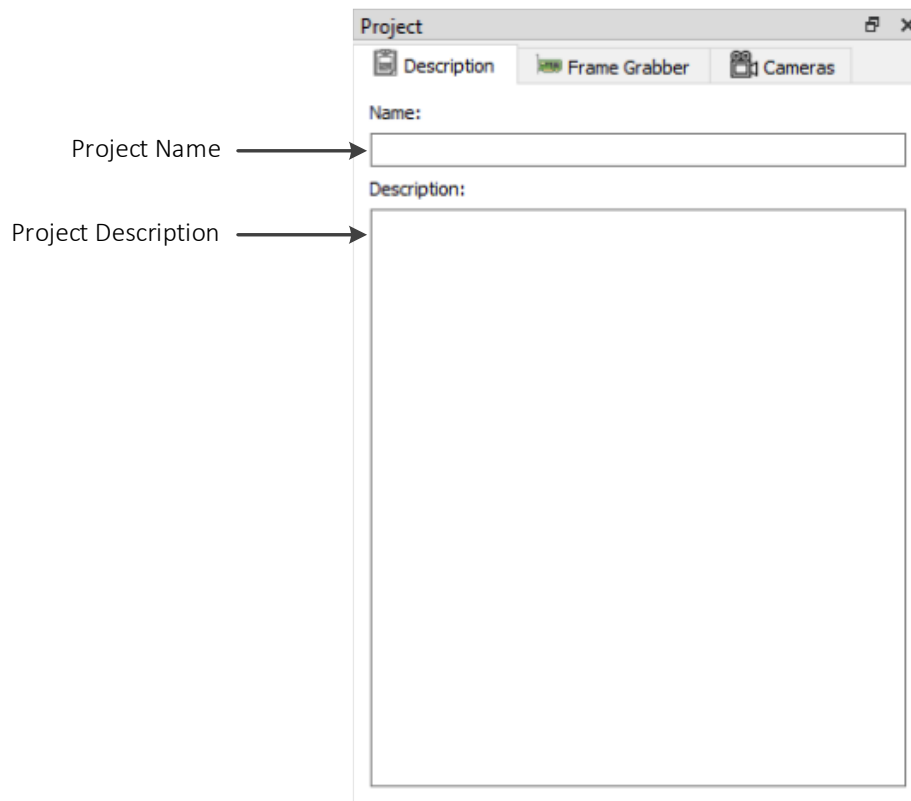

Figure 4 – Project description tab
2. A Description tab is used to specify the project name and description, as shown in Figure 4.